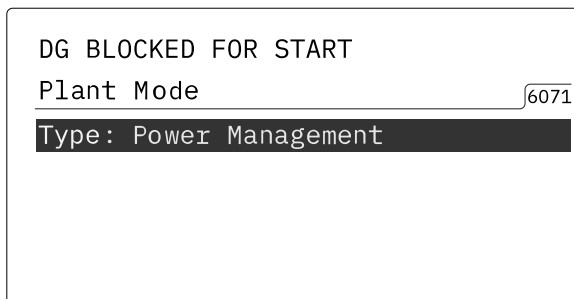

Figure 83. Power Management
6. Make sure **Power Management** is shown on the display screen (Figure 83).